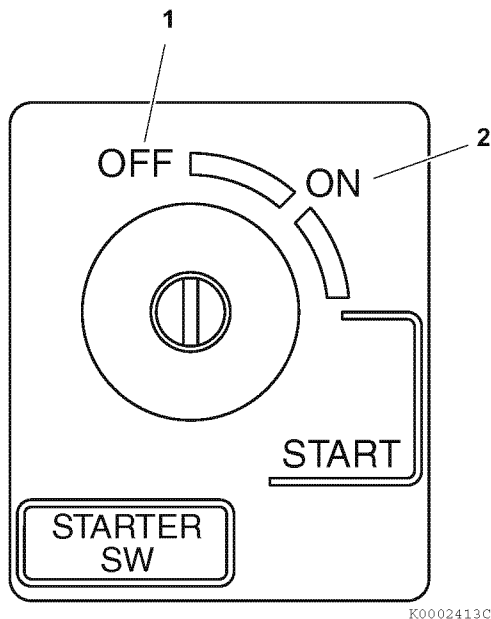

Figure 28
4. Turn the key clockwise from the OFF position (1, **Figure 28**) to the ON position (2, **Figure 28**).